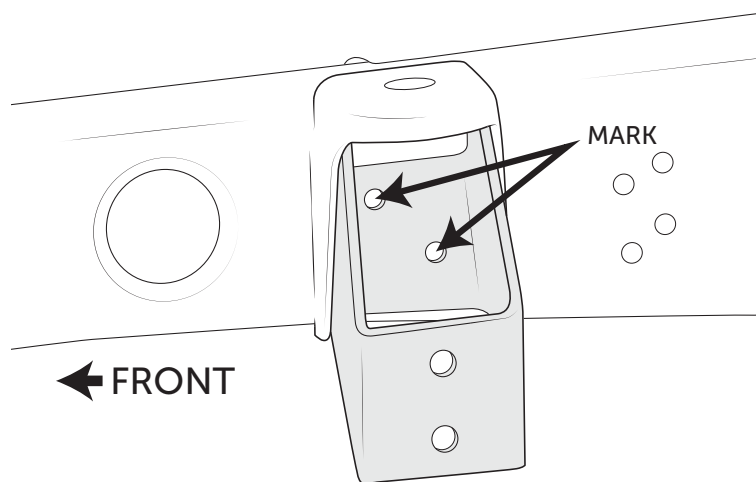

Figure 9: LH Side Shown
B. Position AEV Frame Brackets into place using the bed mount bolts and mark holes for drilling (fig. 9).